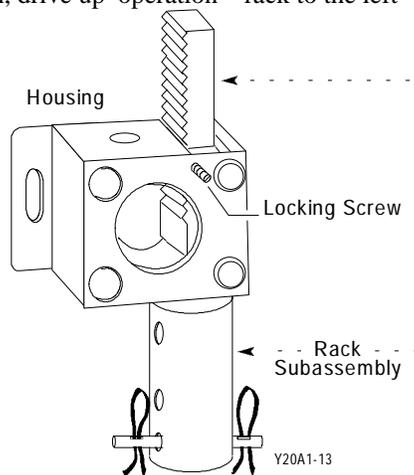

Figure 13: Inserting Rack Subassembly
3. Insert the rack subassembly into the gear housing by sliding it from the bottom through the hole in the gear housing as shown in Figure 13.